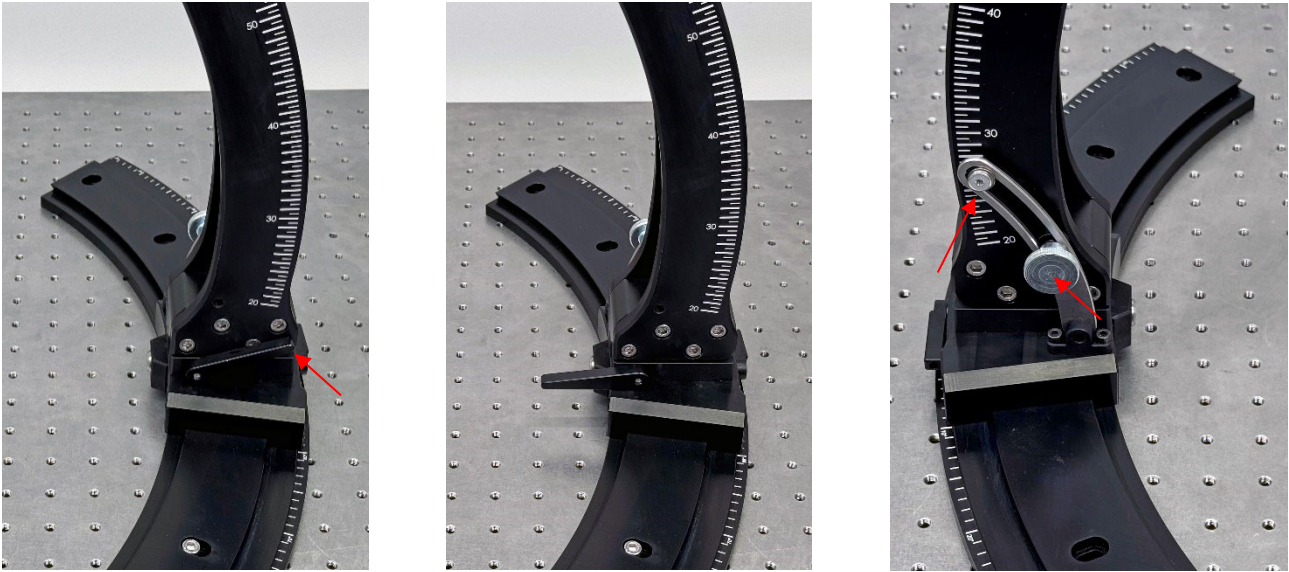

Figure 18. Adjusting the ARM back folding mechanism.
- The end stopper screw for the back folding can be freely (Figure 18, right), but it is recommended to adjust it so that the ARM turns beyond its center of mass to reach stable state.
- The knurled knob (Figure 18, right) allows temporarily locking the ARM in any position over its full folding range, which may be needed e.g. in case a spatial constraint prevents folding the ARM back until it reaches a stable state.